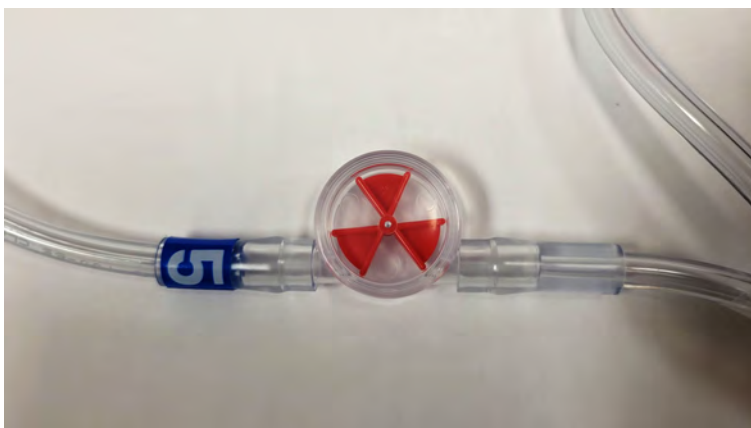

Figure 4.59. Inline flow indicator (pinwheel)
15. Once treatment begins, confirm that fluid is flowing through the tubing circuit by observing the rotation of the inline flow indicator (Figure 4.59). With the Surface Start-Up Kit, it may take several minutes for the pinwheel to start spinning. If the flow indicator does not rotate freely during patient treatment, inspect the entire tubing circuit for kinks or other flow restrictions. Tap on the flow indicator to liberate any trapped air bubbles and return them to the fluid bag.